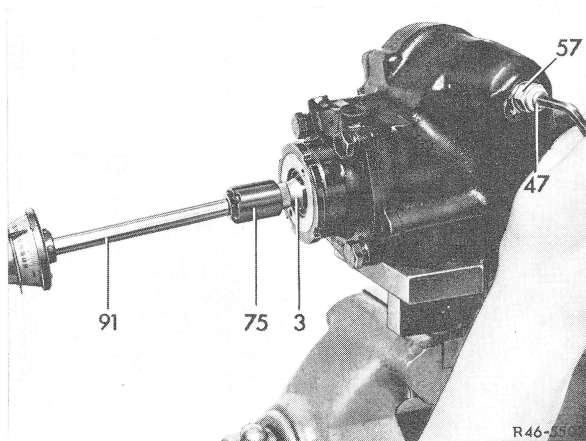

Fig. 38
38 The friction torque can also be measured with torque wrench (91) (Fig. 38).
39 Screw SEAL-Lock collar nut on adjusting screw (47) and tighten to 60–70 Nm (6–7 kpm), while applying counterhold to adjusting screw (Fig. 38).